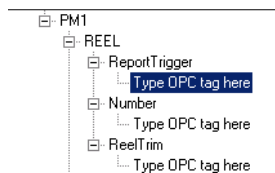

Figure 214. Selecting the REEL Report Trigger Place Holder
1. Click on the OPC tag place holder for the REEL Report Trigger, Figure 214.